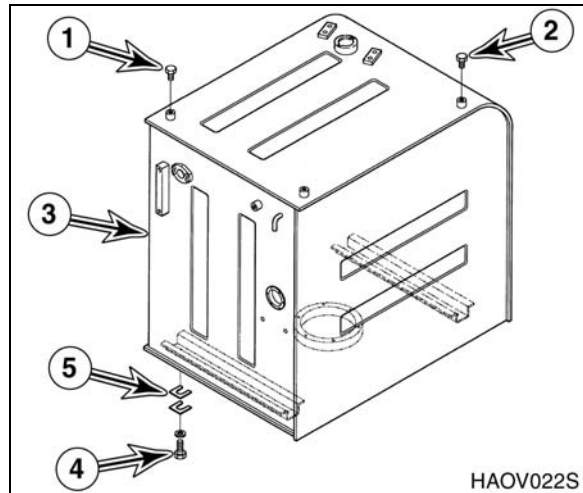

Figure 12
1. Install two 12 mm eyebolts in threaded holes at that bolts (1 and 2, Figure 12) came out of. Using a suitable lifting device, sling eyebolts.
2. Set fuel tank (3, Figure 12) into position. Install four bolts and washers (4) finger tight, to secure tank (3) to frame.
3. Install shims (5, Figure 12) as needed to prevent tank (3) from rocking or stress from mounting bolts (4).
4. Tighten mounting bolts (4, Figure 12) after shims are installed.